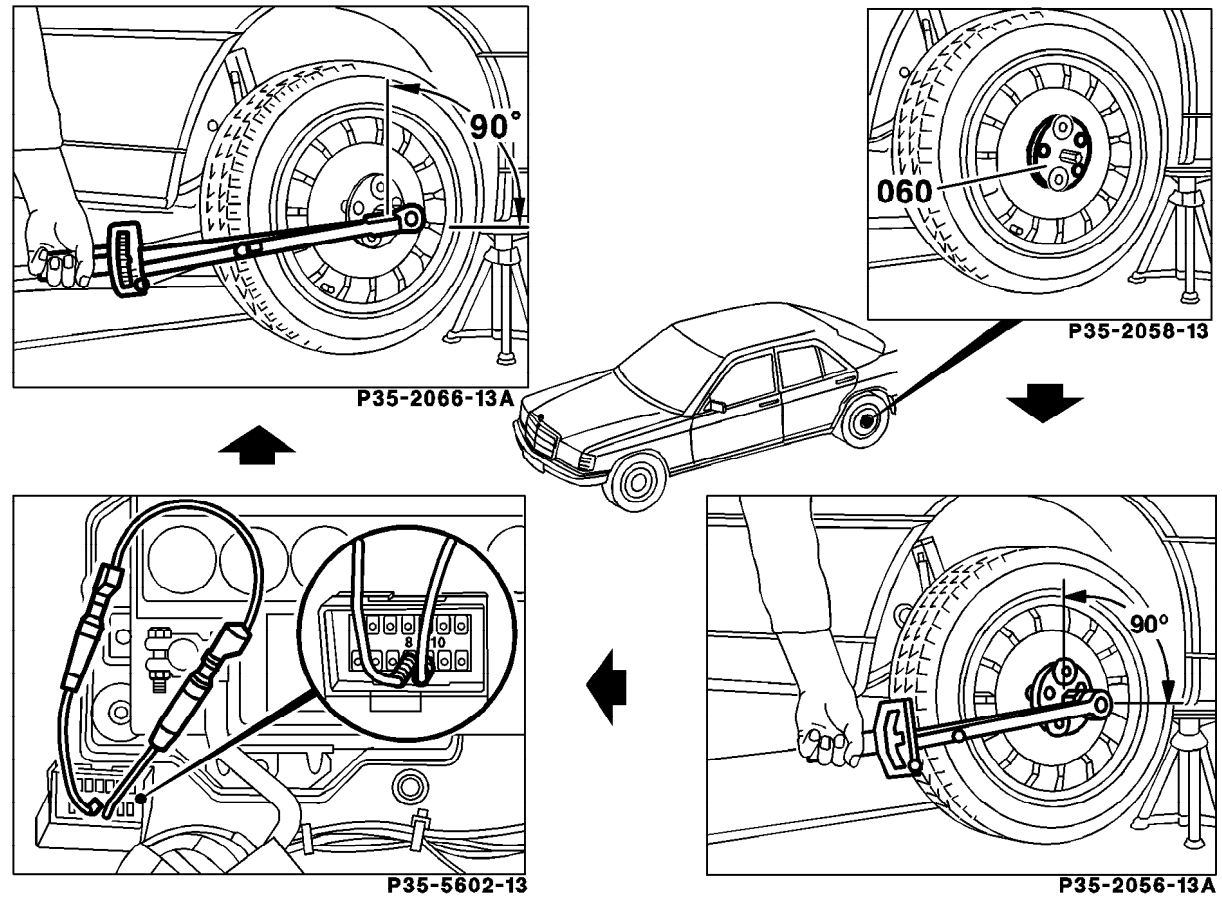

Figure 1
4. Attach frictional torque measurement adaptor plate (Figure 1) using two opposing wheel bolts on raised wheel. Screw studs with shorter threads into the rear axle shaft flange until they bottom out. Slide frictional torque measurement adaptor plate over studs and tighten knurled nuts by hand.